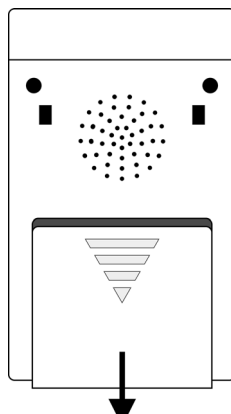

Figure 1: Battery compartment
- At the rear side there is a battery compartment, its cover can be pushed downwards so that the compartment opens ( fig. 1).